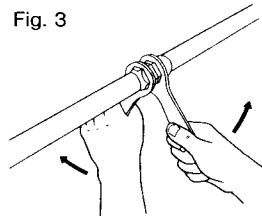

Fig. 3
- 3) After connecting these two elements, fasten FRP outershell joint bracket with special wrenches. Fasten them firmly until there is no gap between both sides of the bracket as shown in Fig. 3.